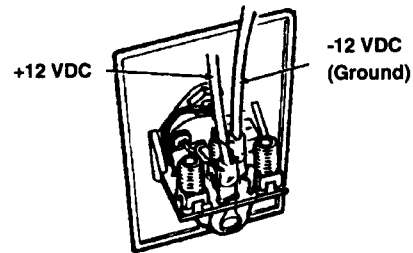
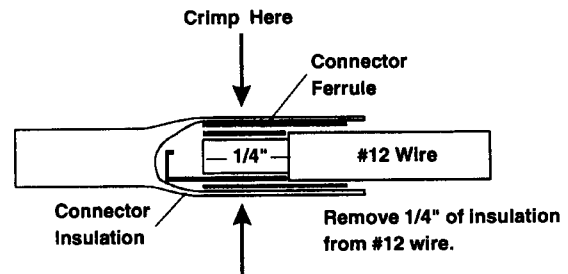
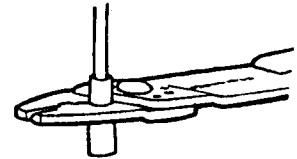

FIGURE 6
FIGURE 7
FIGURE 8
**STEP 12:** Make 12 volt connection to wall plate/power supply Figure 6. Install terminals on wires from +12 VDC source as shown in Figure 7. Crimp terminals with Craftsman type 4 crimping tool or equivalent. See Figure 8. Push wires onto tabs on terminal board as shown in Figure 6. If in doubt as to the polarity of the wires, connect them temporarily to tabs on circuit board and move switch on front of outlet to left, if light comes on polarity is correct. See Figure 10.